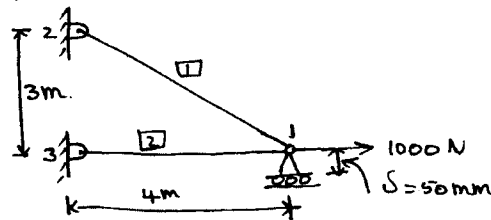

Fig.Q6
- 6 For the two bar truss shown in Fig.Q6, determine the nodal displacements and forces. Assume  $E = 200 \text{ GPa}$ ,  $A = 6 \times 10^{-4} \text{ m}^2$ .